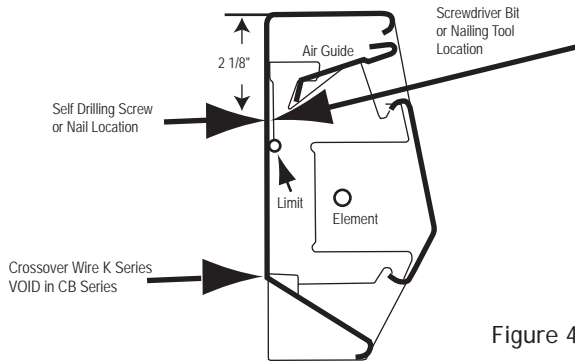

Figure 4
10. When mounting heater, (see Figure 4), make sure screws do not damage crossover wiring or the safety limit in the heater.
11. Do not remove or bypass the safety limit control as this could allow heater to become a fire hazard - see Figure 4.
4. Position heater at desired location and attach to wall using good screws or appropriate hardware. Locate studs and drive screws into studs where possible. For heaters up to 6 feet (1.8 m) in length, one screw at each end is adequate. For longer units, an additional screw in center is required. Tighten screws and then loosen screws at least 1/4 turn to allow heater to expand and contract during use. If unit is mounted above floor, two additional mounting holes are provided at each end below the heating element (see Figure 4). Install an additional screw at each end for stability making sure to loosen each screw at least 1/4 turn.
5. A safety limit control is provided to turn off the heater automatically if it is blocked or otherwise overheats due to an abnormal condition-see Figures 4 and 5. DO NOT bypass or remove this safety device from the electrical circuit-see Warning 11 on page 2. During normal use, this safety control should not operate. If you find that this control is operating, make sure the heater is not being blocked. If it continues to cycle the heater off, disconnect power to heater and have it checked and repaired by a qualified electrician.